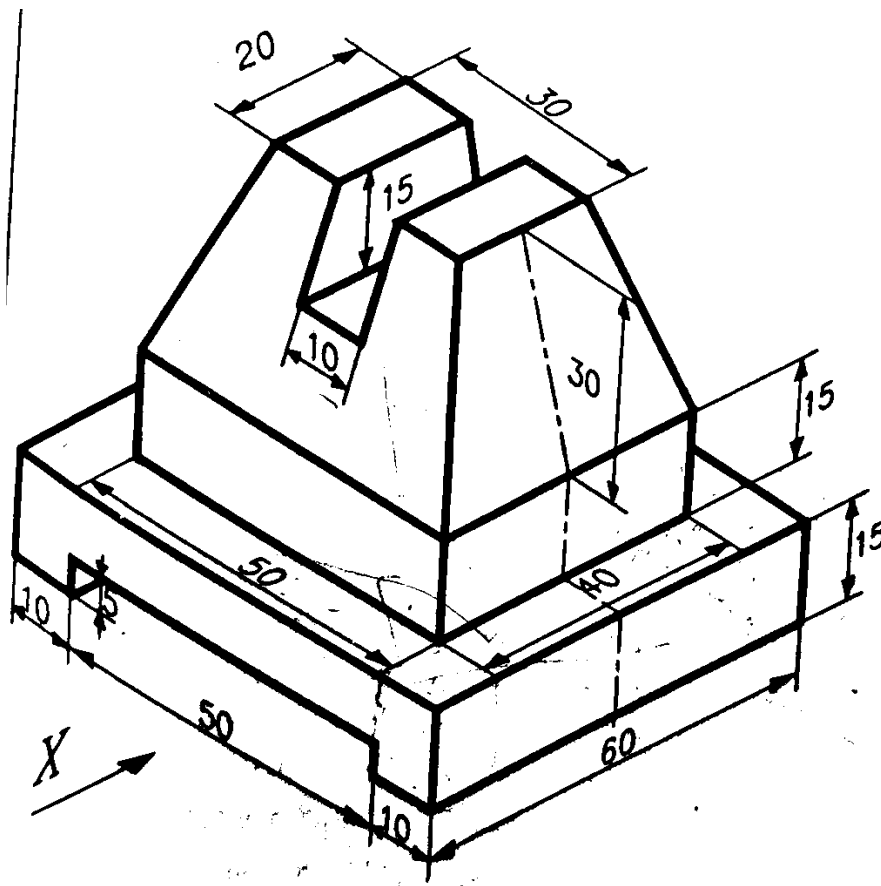

Figure 1
11. **Figure 1** shows a machined component drawn in isometric projection.